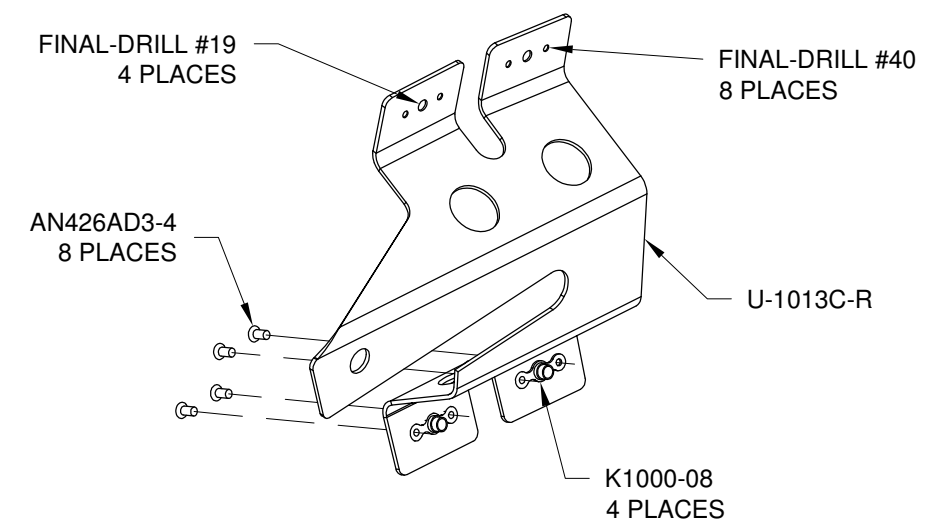

FIGURE 4: ATTACHING NUTPLATES TO BRACKETS
Step 6: Final-Drill the U-1013C-L/R Nose Wheel - Fairing Brackets for nutplate rivets and screws as shown in Figure 4. Deburr and countersink the nutplate attach rivet holes for flush rivets. Prime the nose wheel - fairing brackets and attach the nutplates shown.